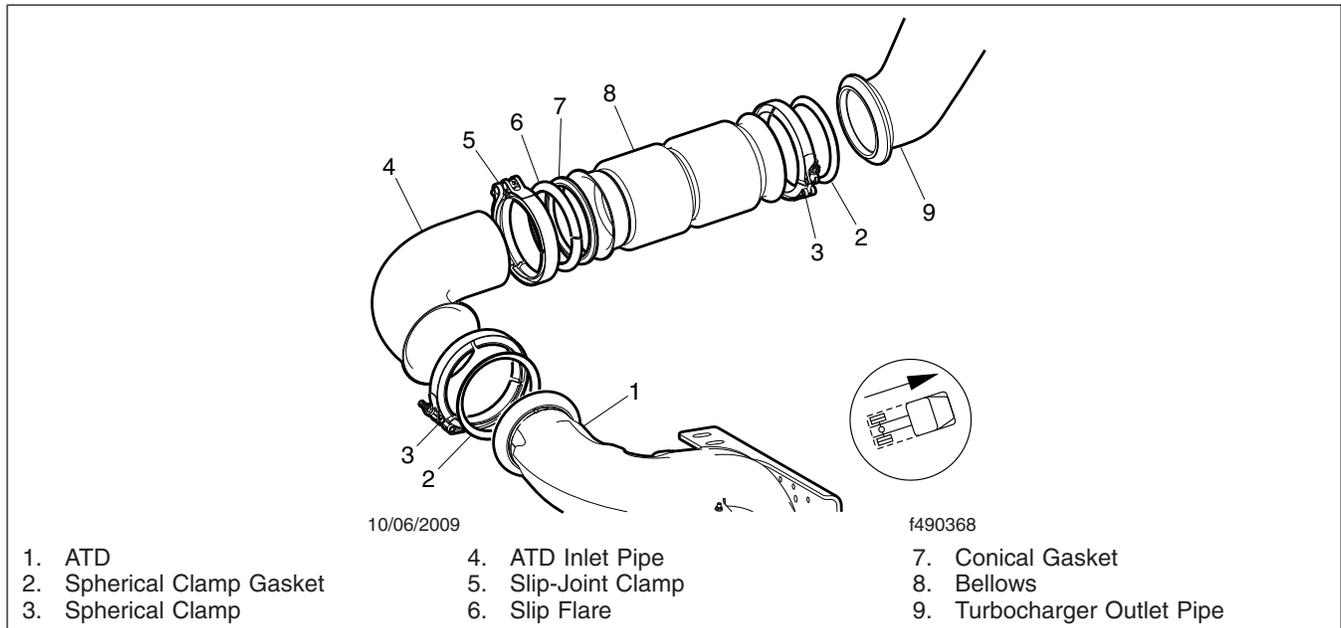

Fig. 38, Exhaust Pipe Installation
- 19.2 Fit the slip-joint clamp (5), flare (6), and compression gasket (7) onto the ATD inlet pipe in the order shown in the fig. 38.